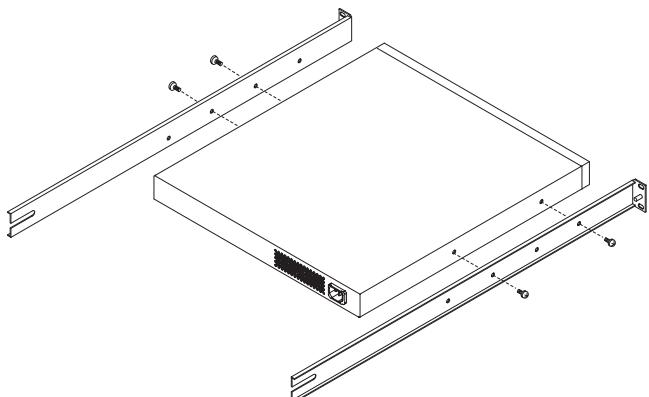

Figure 7 Attaching the rails to the switch
2. Attach each rail to the switch using two 10-32 x .375-inch screws with captive washers (Figure 7). Make sure the slotted ends of the rails are on the power-supply side (not the SFP-port side) of the switch.